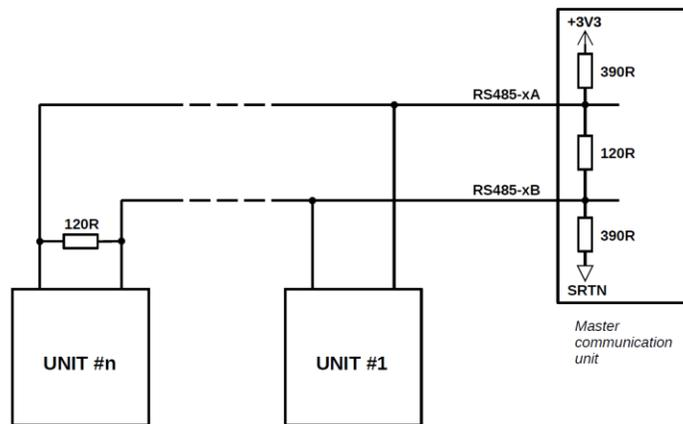

Fig. 2 RS485 connection
2 120 Ω resistors connection required between RS485-xA and RS485-xB on both sides externally, pull up resistor 390 Ω must be connected to external +Vcc and RS485-xA, pull down resistor 390 Ω must be connected to RS485-xB and SRTN – both on the master communication unit (please see the Fig. 2)
- 2 120 Ω resistors connection required between RS485-xA and RS485-xB on both sides externally, pull up resistor 390 Ω must be connected to external +Vcc and RS485-xA, pull down resistor 390 Ω must be connected to RS485-xB and SRTN – both on the master communication unit (*please see the Fig. 2*)